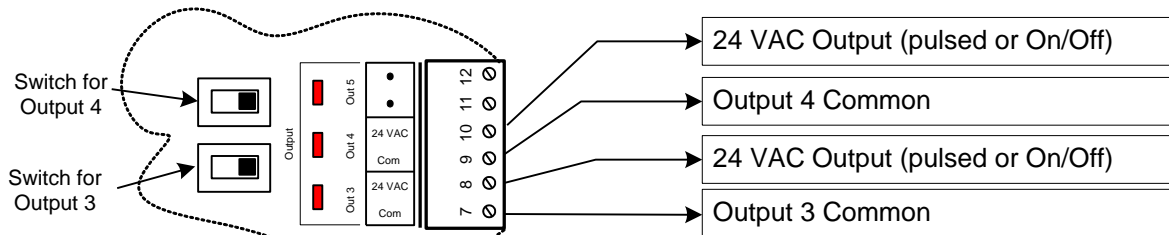

Figure 10: Outputs 3 and 4 active
1) Switch position to obtain an **active output** (see Figure 10):